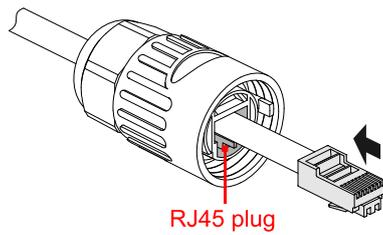

Figure3-30 Fix RJ45 plug
- Step 2 After crimping, insert the RJ45 plug into the buckle (as shown in Figure3-30), and then screw the RJ45 port.